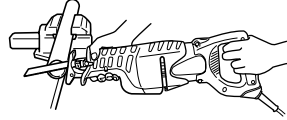

Fig. 19
- (1) Fasten a workpiece firmly before operation. (**Fig. 19**)